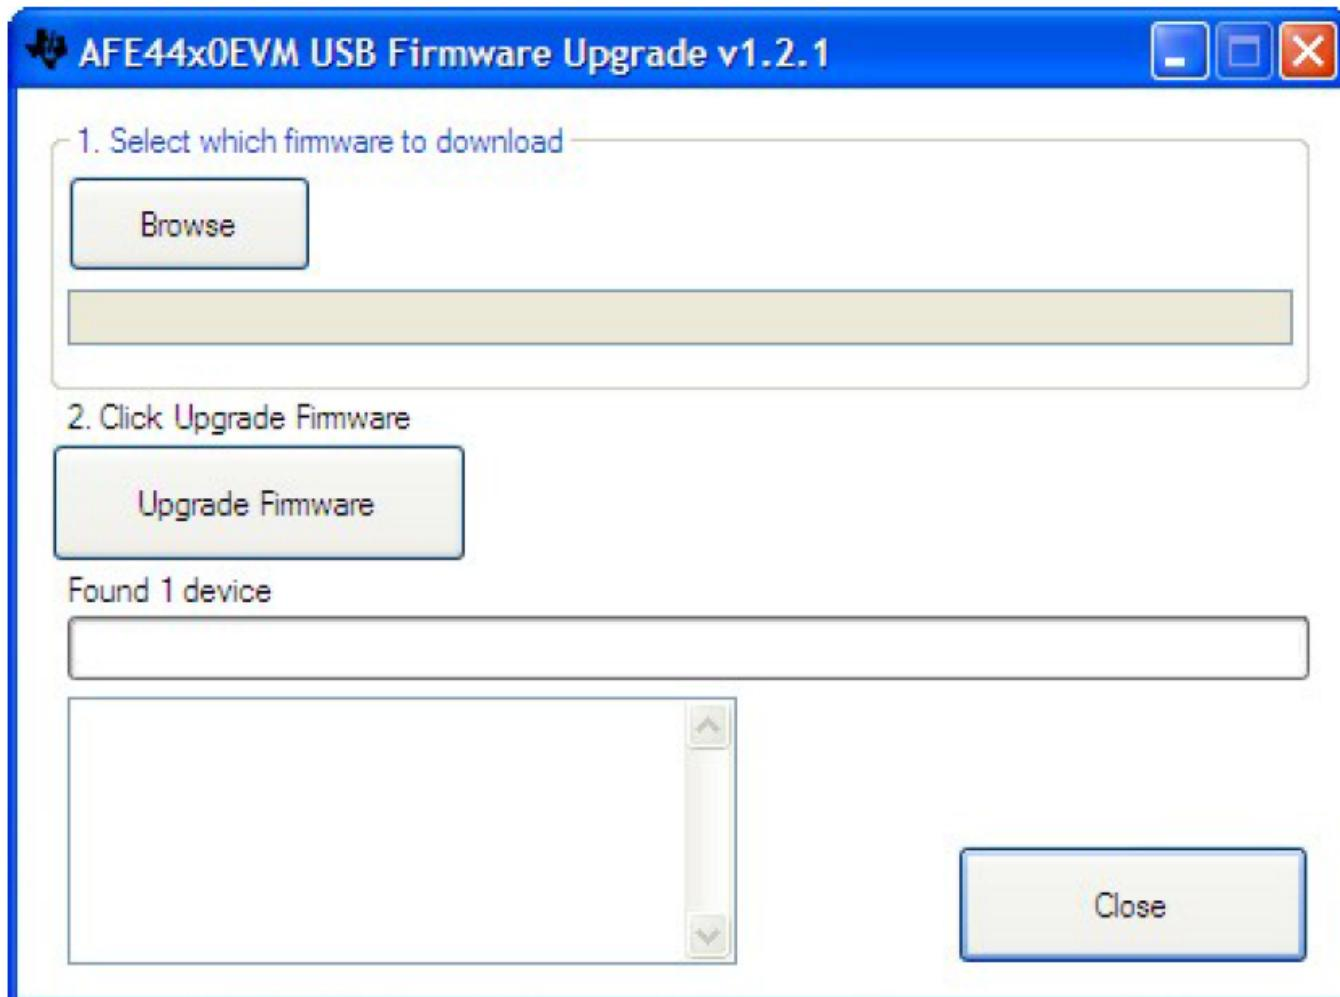

Figure 40. PC Application Firmware Upgrade – 2
- The firmware upgrade application detects the connected EVM (Figure 40).